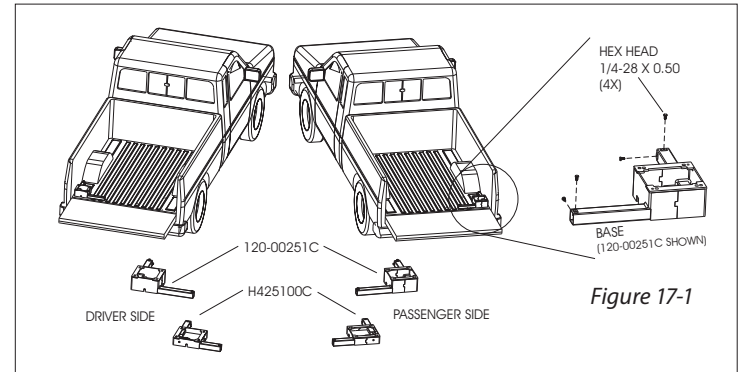

Figure 17-1
- 1. Place base to the nearest corner** of the vehicle, near the tailgate or opening, that the lift is to be mounted. Fasten loose the four Hex Head Bolts, 1/4-28 x 0.50 to the legs of the Base. [Figure 17-1]